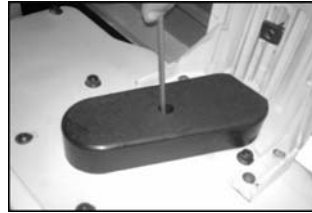

Figure 1
1. Use 4MM Allen Key to release the screw of belt guard. **See Figure 1**